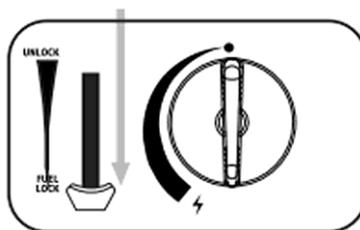

Fig. 8
4. Then press the gas cartridge locking lever (20) down to FUEL LOCK (13) position. (Fig. 8)